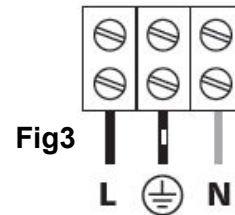

Fig3
- For the **SS-OYL-395mm-248P-23W-SMD** versions(see Fig.3):